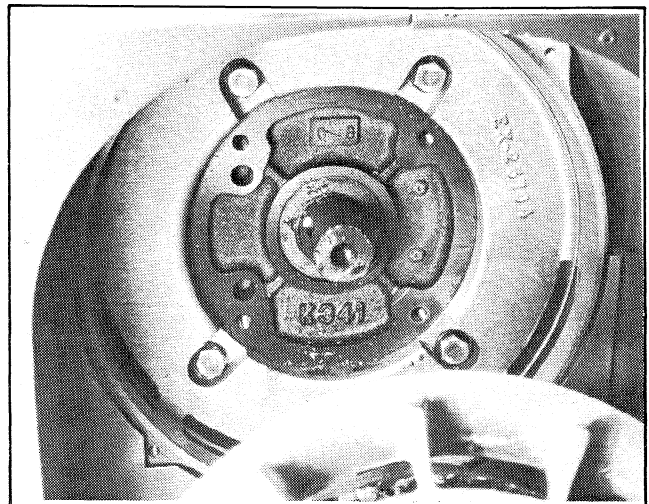

Figure 6-31. Driveshaft (4.5KW Shown)
2. On the 4.5KW, 5.5KW or 7KW, apply antiseize to the crankshaft stub (Figure 6-31). Install the rotor onto the crankshaft with the thru bolt. See Table 6-2 for torque value.